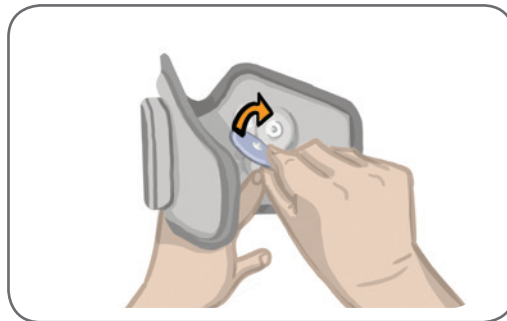

Figure 8-5: Attaching the Cloth Electrodes
6. Attach the Round Cloth Electrodes to the electrode bases. See Figure 8-5. For regular lower leg FS Cuff users make sure the Cuff Snap Covers are in place.